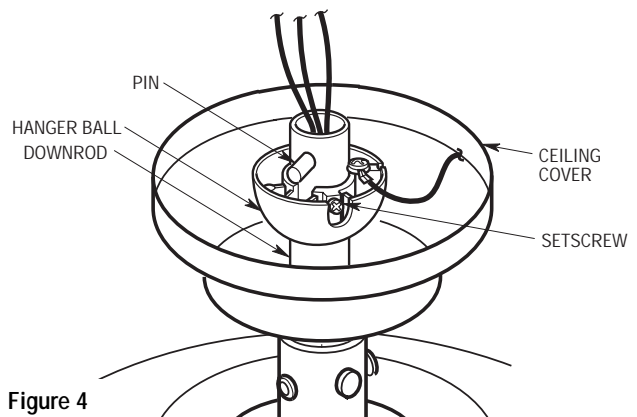

Figure 4
- 5. Reinstall the hanger ball on the downrod as follows (Figure 4). Route the three 80" motor leads through the hanger ball. Position the pin through the two holes in the downrod and align the hanger ball so the pin is captured in the groove in the top of the hanger ball. Pull the hanger ball up tight against the pin and securely tighten the setscrew in the hanger ball. A loose setscrew could create fan wobble.